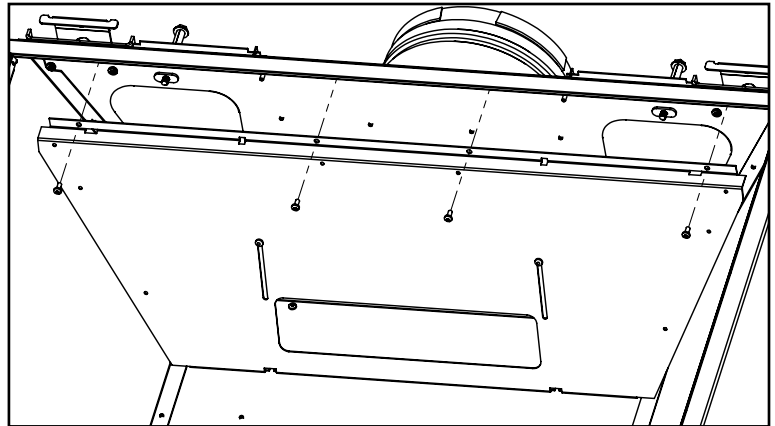

Figure 70: RZ41 Baffle Removal / Installation
2. Using a Torx T20 screwdriver remove the front four (4) screws from the top of the firebox.
3. Remove the existing baffle by lifting it off the two (2) rear firebox screws.
4. Install the new power vent baffle re-using the screws removed screws (Figure 70).
Table 10: Minimum 'H' for Figure 70.